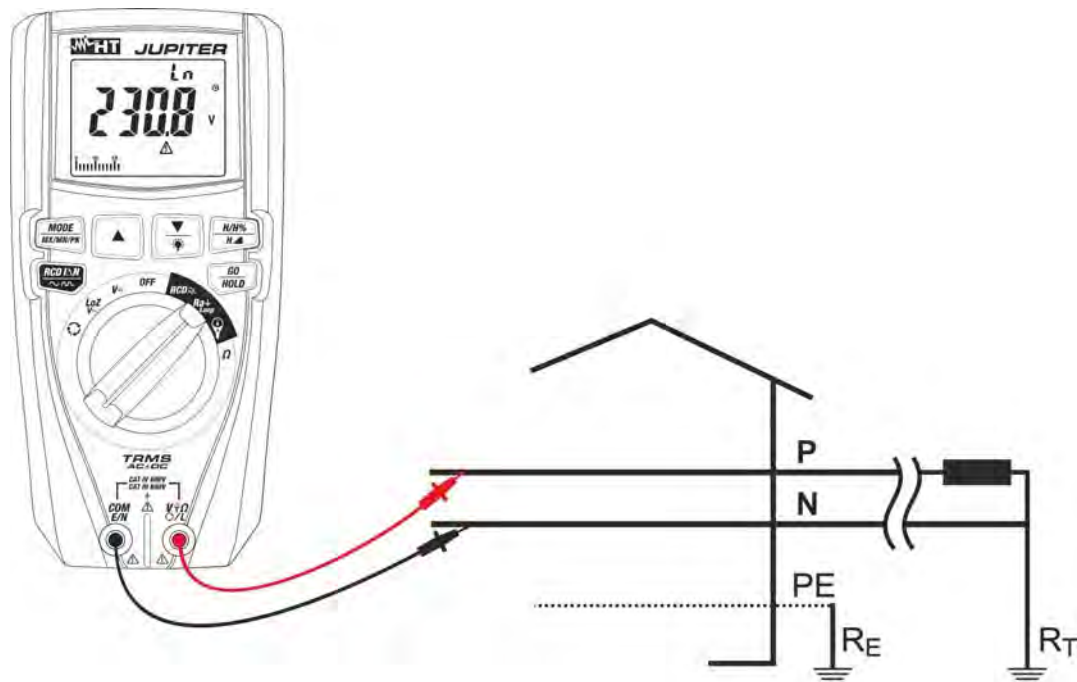

Fig. 26: Use of the instrument for measuring Loop L-N impedance with leads
8. **For Loop L-N measurements**, in case measuring leads are used, insert the red conductor into input terminal  $V_{\Omega} \text{ L}$  and the black conductor into input terminal **COM/E/N** and connect the instrument to the system to be tested (see Fig. 26). The value of phase-to-neutral voltage is shown on the display